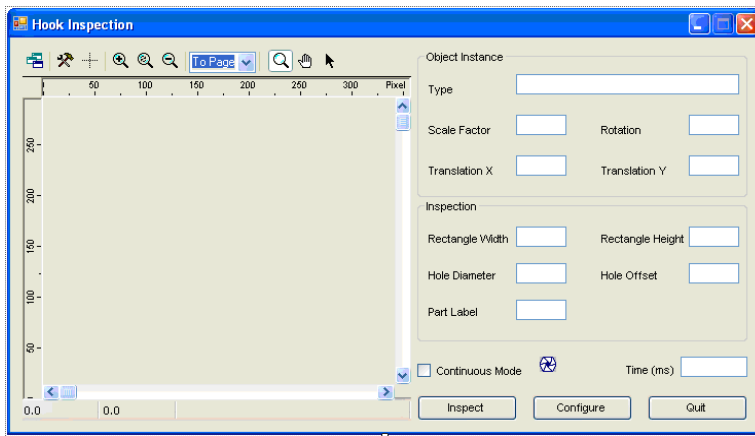

Figure 38 VB .NET Form for Tutorial 5
1. On your application form, add one text box. Name it **LabelText** and add an appropriate label. Set up your form as illustrated in Figure 38.